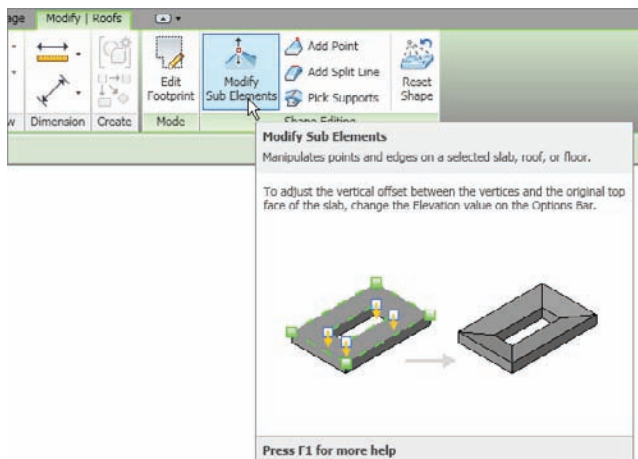

FIGURE 7.13 Click the Modify Sub Elements button to gain access to the points on the roof.
25. Notice that there is a node where you picked the point. To access the node, click the Modify Sub Elements button on the Shape Editing panel, as shown in Figure 7.13.